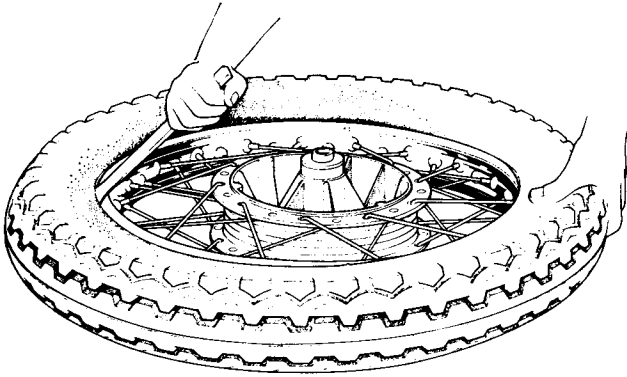

Fig. H18 Levering close to valve whilst pressing opposite bead down into rim
- 6 Insert the first lever between the tire valve and rim at the valve position, press the opposite side of the tire down into the rim well and apply leverage (see Fig. H18).
- 7 Insert the first lever between the tire valve and rim at the valve position, press the opposite side of the tire down into the rim well and apply leverage (see Fig. H18).